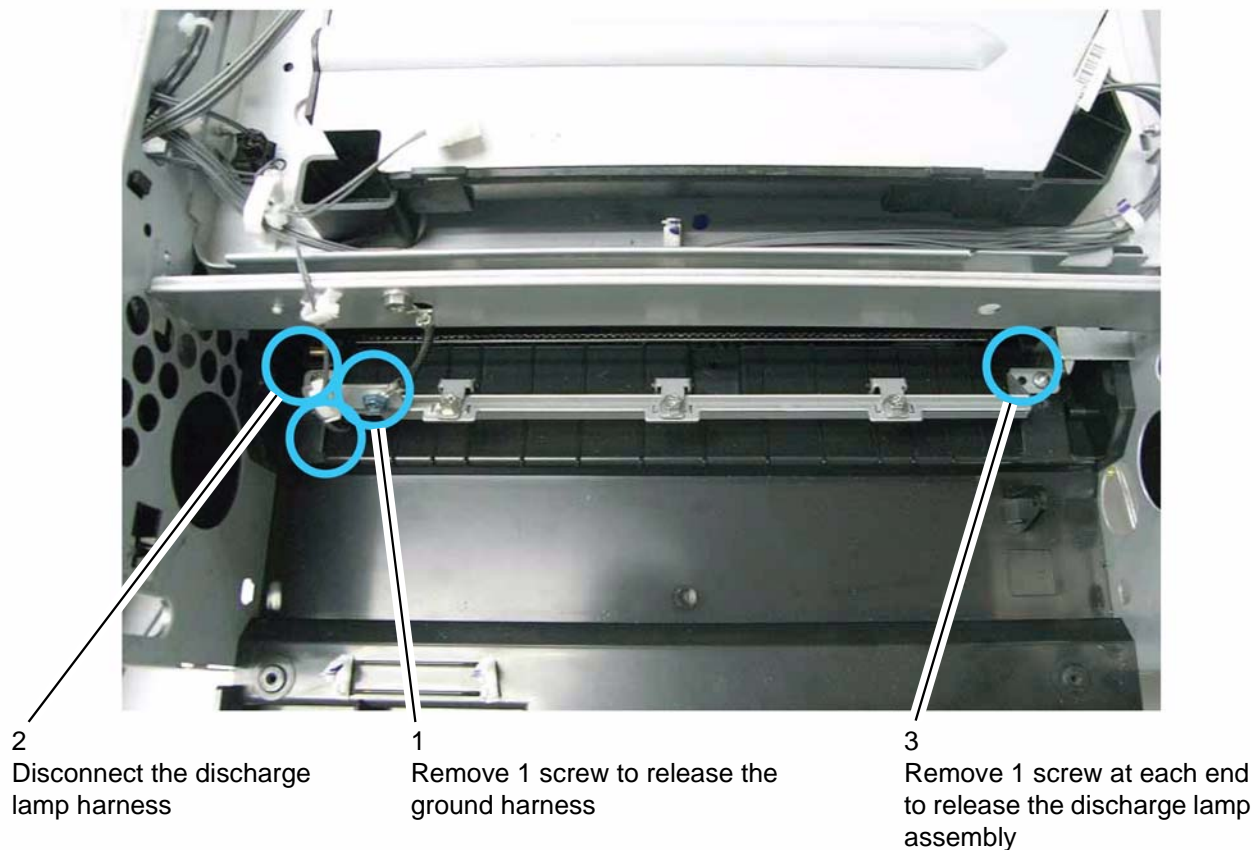

Figure 1
- Remove the discharge lamp assembly, Figure 1.